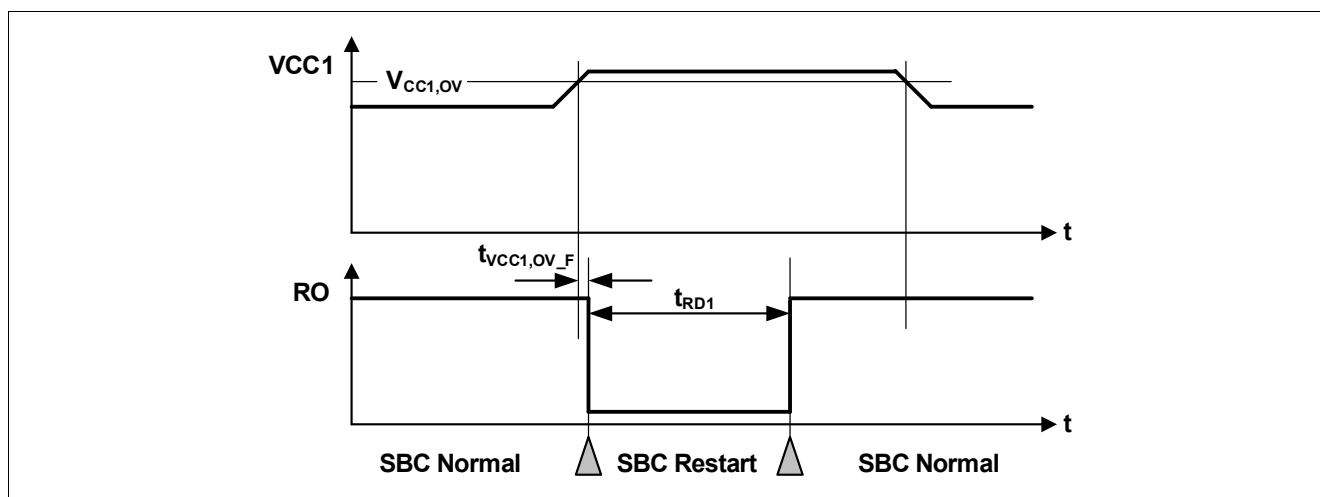

Figure 47 VCC1 Overvoltage Timing Diagram
- If the bit **VCC1_OV_RST** is set and **CFG_P** = '1', then SBC Restart Mode is entered. The FOx outputs are activated. After the reset delay time (t_{RD1}), the SBC Restart Mode is left and SBC Normal Mode is resumed even if the VCC1 overvoltage event is still present (see also **Figure 47**). The **VCC1_OV_RST** bit is cleared automatically;